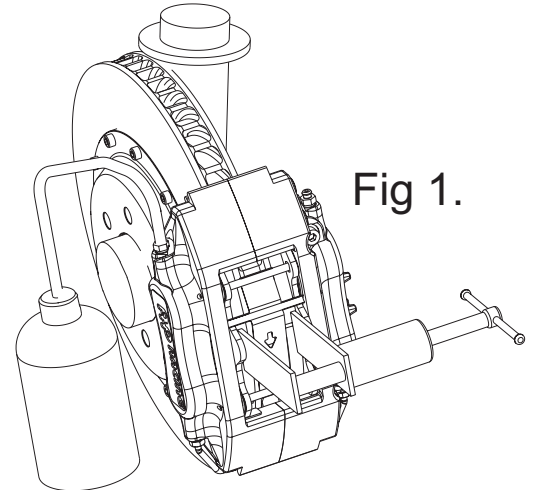

Fig 1.
When replacing brake pads with strap drive discs fitted, do NOT push the pistons back into the caliper by the use of a lever against the discs. If this is done then the disc straps may be distorted and this can cause run out, resulting in possible brake vibration. The pistons should be retracted using the correct tool (Figure 1). Alternatively remove the caliper from the hub and push the pistons back using a soft piece of wood.
- Using the Retractor (Figure 1) to push the pistons back into the caliper.